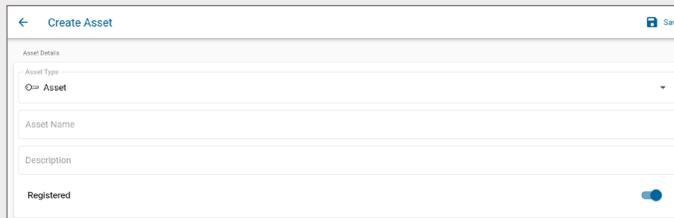

Fig. 67 – Create Asset screen – Asset Details
3. Fill in the **Asset Details**, as shown in Fig. 67: